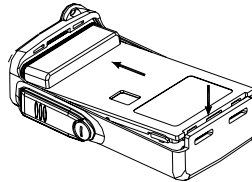

Fig.9
- b. Press the bottom of the chassis downwards until a click is heard. (See fig.9)